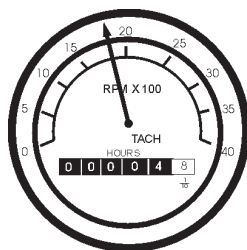

Figure 49. Engine Tachometer Gauge
16. The **tachometer gauge** (Figure 49) will indicate the speed of the engine when the generator is operating. Under normal operating conditions this speed is approximately 1800 RPM's.